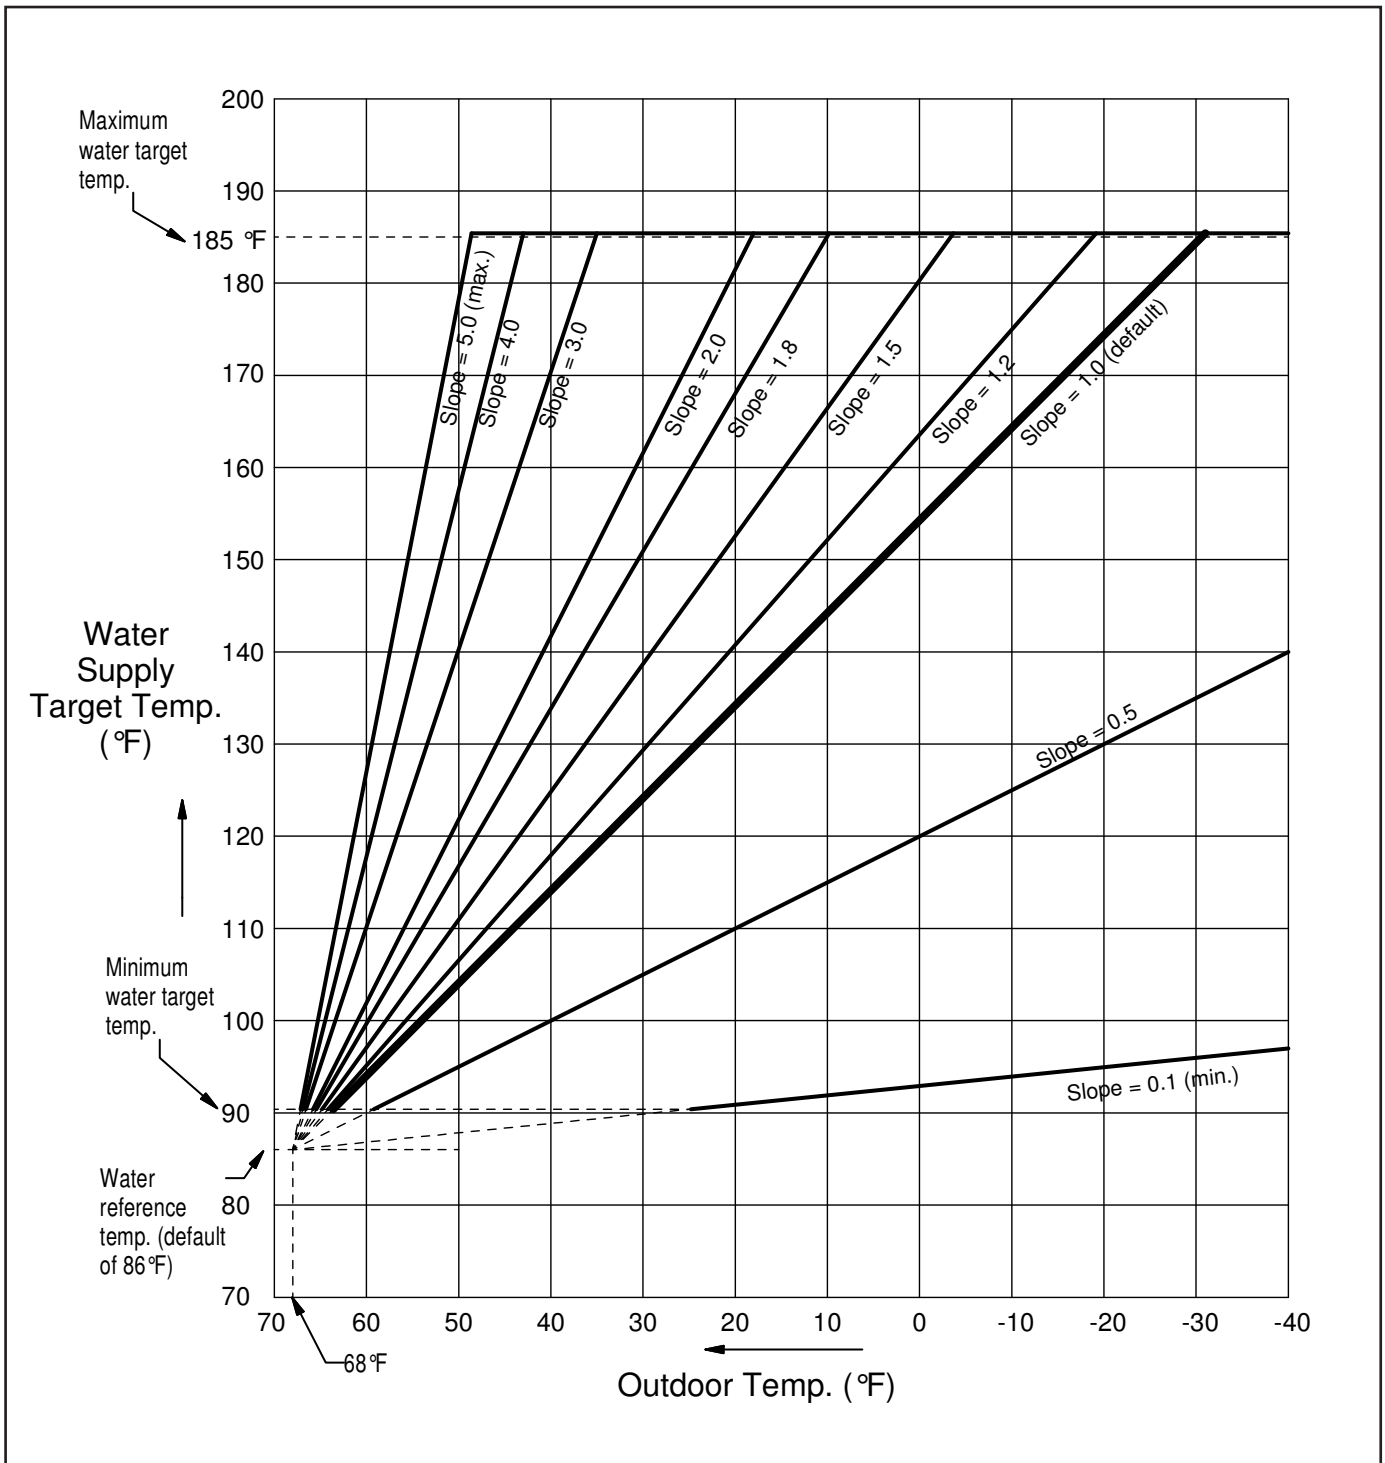

Figure 24. Space Heating mode with outside sensor water set point graph.
4. Weather compensation slope and set point temperature may be changed (if outside sensor is used). (See Figure 24 for graph).